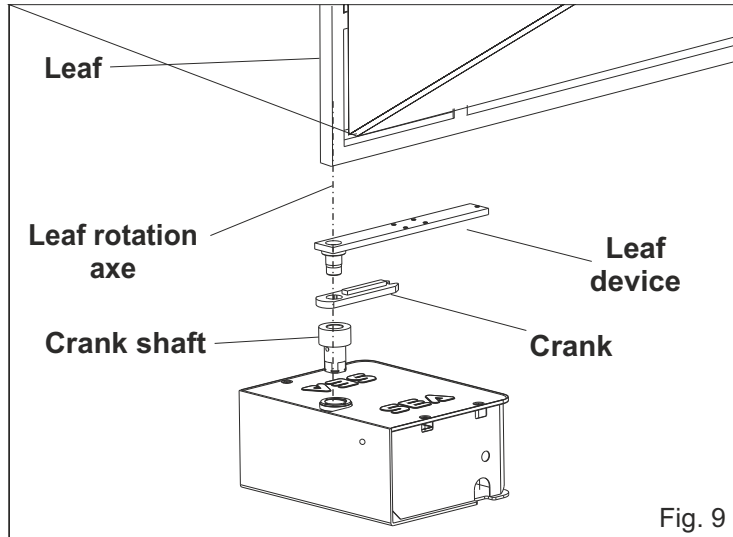

Fig. 9
3.1. Position the leaf of the gate on the leaf device making reference to the rotation axe of the leaf hinge (Fig. 9);